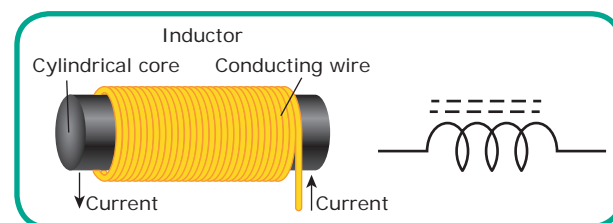

Figure 2.10 Ferrite Core Inductors
**Ferrite Core Inductors:** Ferrite core inductors consist of a few turns of wire wound on a ferrite materials. A ferrite is basically an insulator having very high permeability. Ferrite core inductor is suitable for high frequency applications and is shown in Figure 2.10.